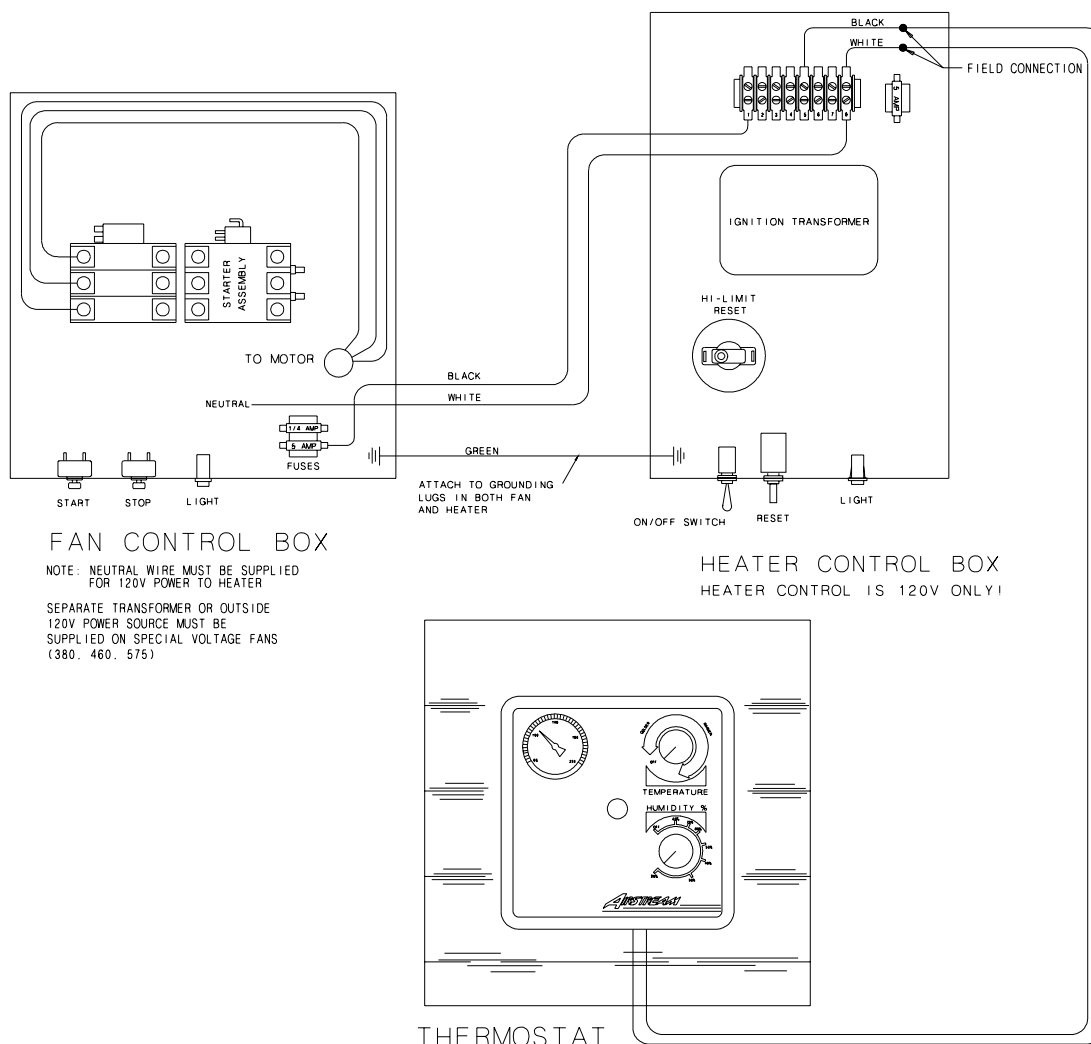

Figure 2: Illustration of Heater wiring installation on a fan unit.
2. Make field connections in fan box as shown in Figure 2. **IMPORTANT!** Heater must be interlocked with fan for safe operation.
3. Connect deluxe thermostat control (optional) as shown in Figure 2. **IMPORTANT!** Thermostat must be installed for safe operation.